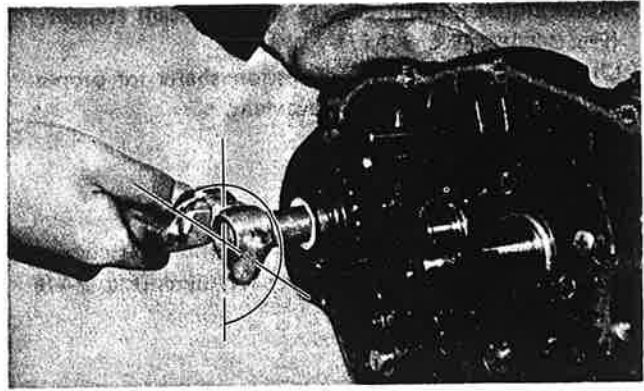

Fig. 3-4-11
3. Rotate kick crank counterclockwise approximately 3/4 turn and push straight in. (Fig. 3-4-11)